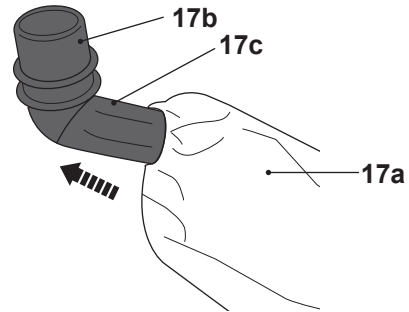

Fig. 7
- > Check and re-fit the dust bag (17a) to the connector (17b) if necessary (Fig. 7).